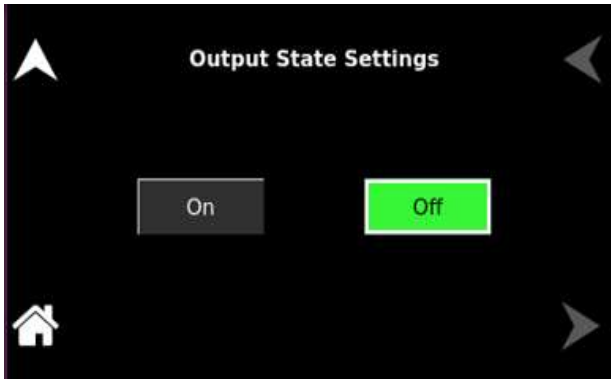

Figure 9-28. Output State
**Output State**      Users can program the output to ON or OFF state. Refer to Figure 9-28.